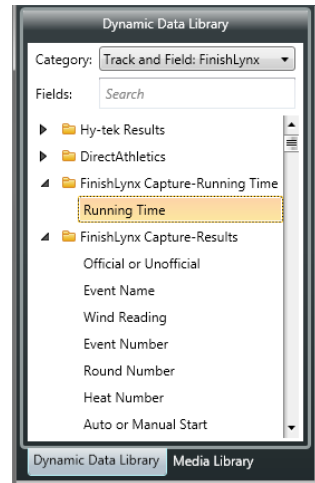
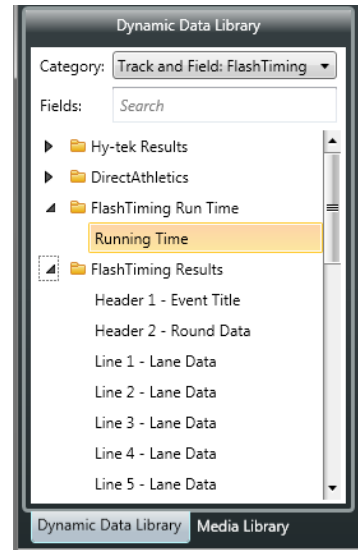

Figure 62: FinishLynx Capture-Running Time
Figure 64: FlashTiming Folders
9. On the **Dynamic Data Library** tab, double-click the “FinishLynx Capture-Running Time” folder (**Figure 62**) or the “FlashTiming Run Time” folder (**Figure 64**) under the appropriate *Category*.
10. On the **Dynamic Data Library** tab, double-click the “FinishLynx Capture-Running Time” folder (**Figure 62**) or the “FlashTiming Run Time” folder (**Figure 64**) under the appropriate *Category*.
3. Double-click the "FinishLynx Capture-Running Time" folder to see the list of all available data fields (**Figure 62**).
3. Double-click the "FlashTiming Results" folder to see the list of all available data fields (**Figure 64**).